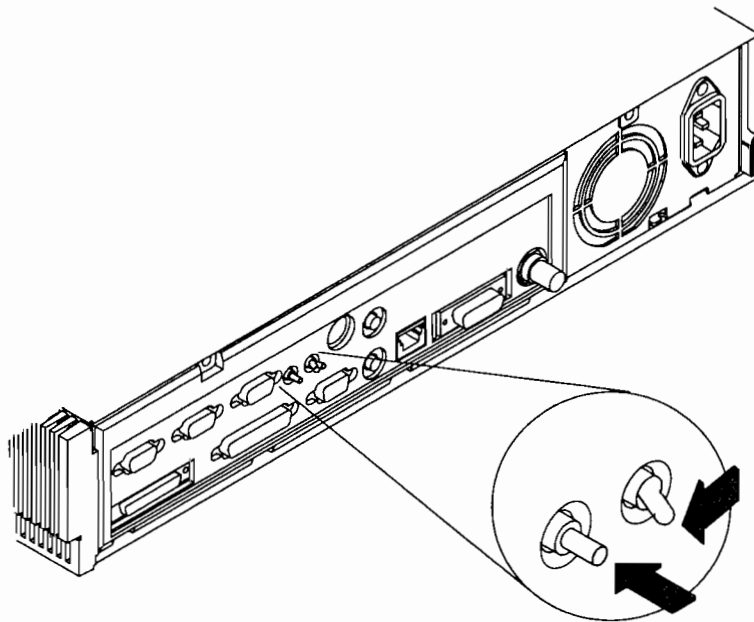
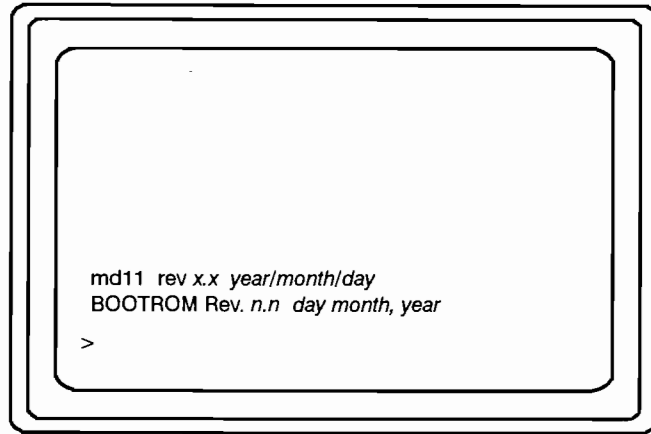

Figure 10-1. Starting a Disked Workstation in Service Mode
Figure 10-2. Sample Screen Prompt
1. Before the system finishes the self tests, first set the Service/Normal mode switch to Service mode and then press the Reset switch as shown in Figure 10-1. Press the <RETURN> key until the screen displays the Mnemonic Debugger (MD) ">" prompt as shown in Figure 10-2.